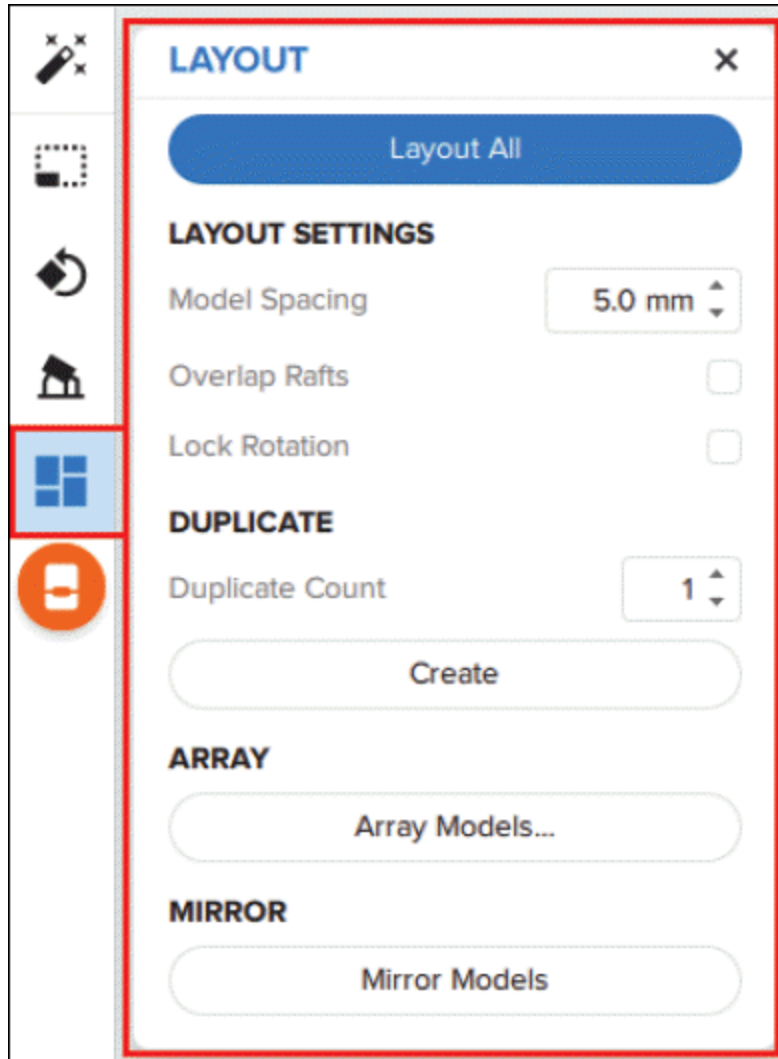

Figure-61. LAYOUT toolbox
- Click on the **Layout** tool from the **Toolbar**. The **LAYOUT** toolbox will be displayed; refer to Figure-61.